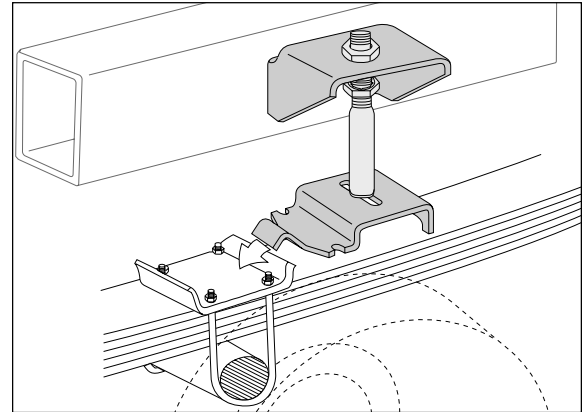

Figure 5
2. With the hook end of the lower bracket placed over the edge of the spring retaining plate (Figure 5), secure the lower bracket to the leaf spring with the provided U-bolt (J), clamp bar (I), flat washers (L), and lock nuts (K). Torque to 16 ft-lbs.